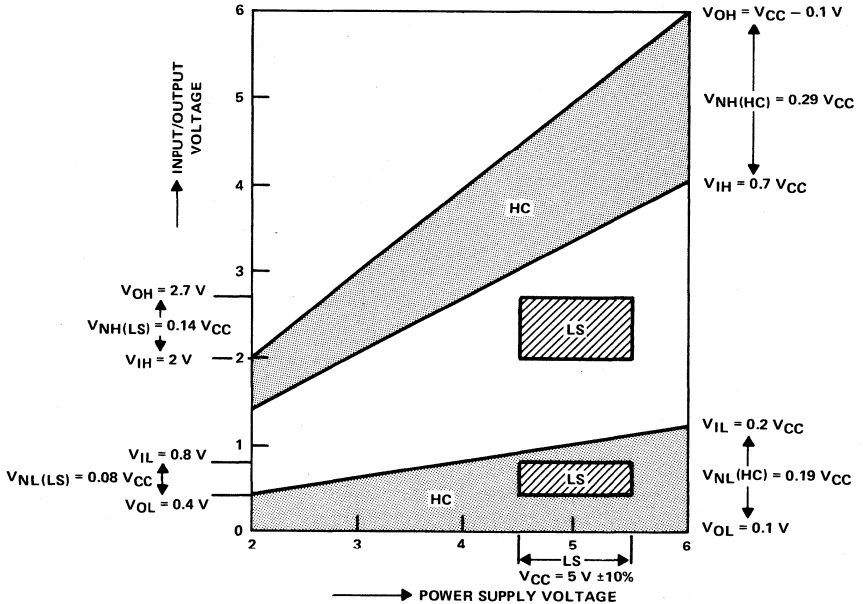

Figure 12. High-Speed CMOS and LS Noise Margins
5. Improved noise immunity over bipolar devices is due to the rail-to-rail (V_{CC} to ground) output voltage swings. Figure 12 illustrates the noise immunity provided by the high-speed CMOS family as it compares to the LSTTL family. This noise immunity makes it ideal for high-noise environments. Minimum and maximum output voltages are guaranteed at 4 mA (6 mA for high-current devices). If the output currents exceed these limits, the noise immunity will be impaired. 'HCT' devices have similar input noise margins to LSTTL because their inputs are TTL-voltage compatible. The outputs of 'HCT' are the same as standard 'HC' outputs.